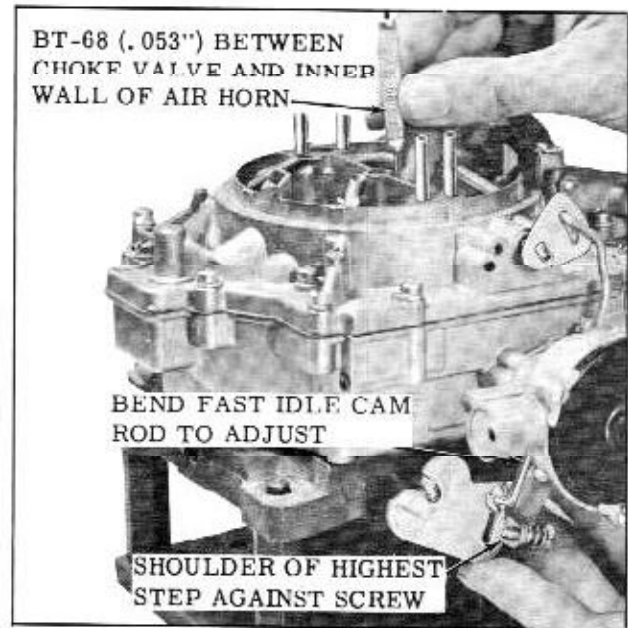

Fig. 8-114 Fast Idle Cam Rod Adjustment
2. With the shoulder of the highest step of the fast idle cam held against the fast idle screw, hold the intermediate choke lever in the extreme up position. The intermediate choke rod and the fast idle cam rod must be at the upper limit of travel in the slot to remove all travel. Check the clearance between the top edge of the choke valve and the dividing wall of the air horn. Check clearance with small end of gauge BT-68. Clearance should be .053". (Fig. 8-114)